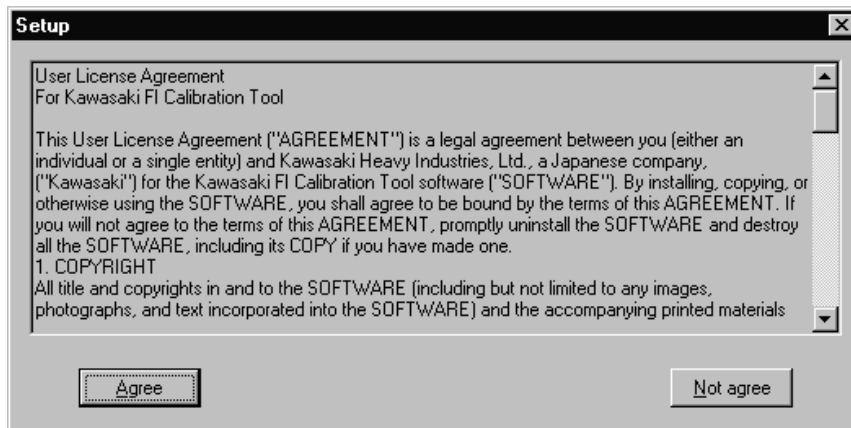

Fig. 4 Product License Agreement
(8) The Product License Agreement screen shown in Fig.4 appears.